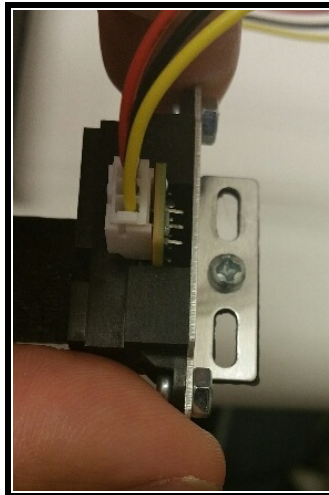

Figure 3.5: Adjust IR Sensor
50. Once the data is in sync, ensure that the initial ball position is close to 0. If the ball position is not close to 0, rotate the IR sensor left or right, as in Figure 3.5, until the ball position is close to 0. After adjusting the sensor, be sure to tighten the screw again, and ensure the system is still balanced.